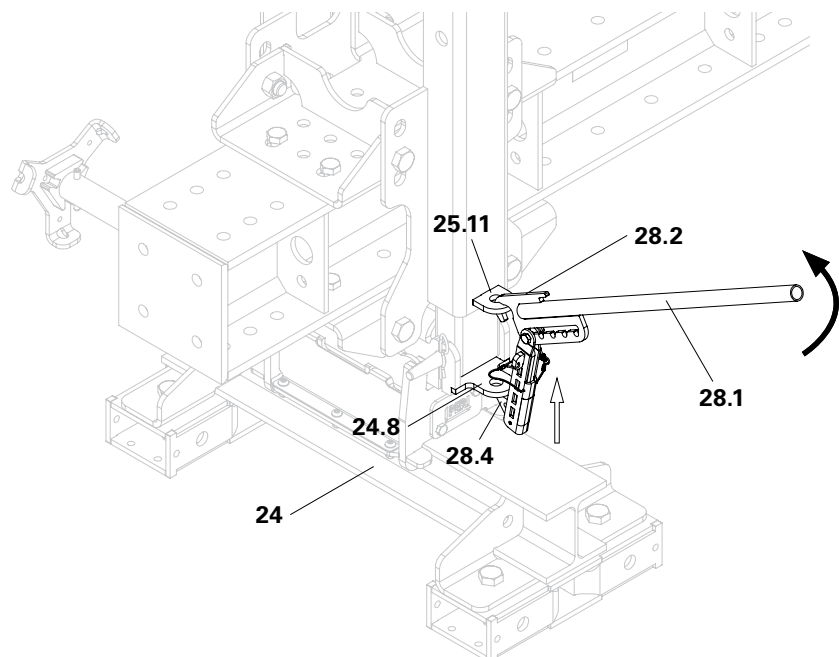

Fig. A3.07
3. Continue to pull the lever upwards until the Hinge Slide (24) is completely raised. (Fig. A3.07)